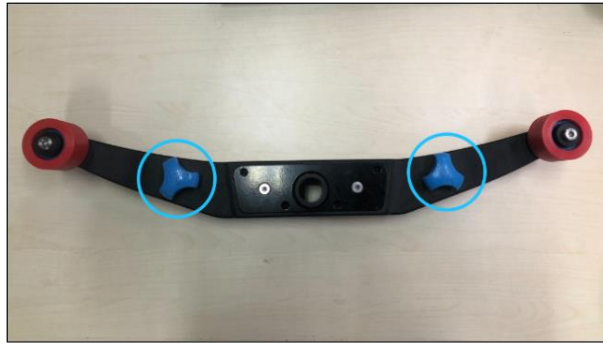

FIGURE 11-10
3. Unfasten the 2 knobs on the squeegee assembly (Fig. 11-10).